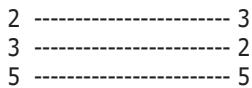

Fig. 8.1: Null- modem cable
a. You can acquire the components to build the serial communication cable it in any specialized shop. Please follow diagrams in figures 8.1 and 8.2 to build the cable.